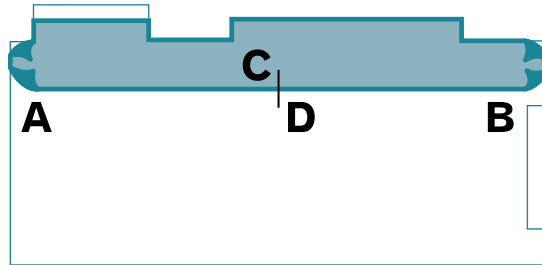

Figure 3 Marking the position
- ▶ When satisfied that the fit on the first edge is correct, use a pencil to trace the opposite edge onto the subfloor (line A-B in fig. 3).
- ▶ In the centre of the room, draw a line on both the sheet and subfloor square to the main axis of the sheet (line C-D in fig. 3).